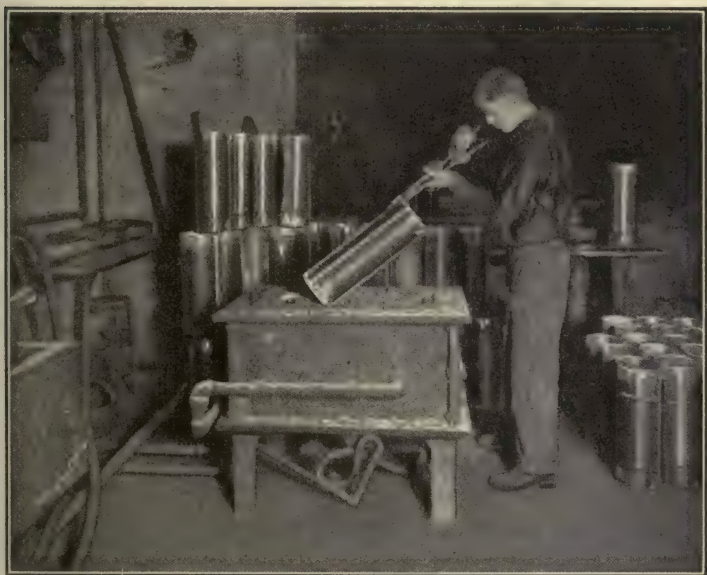

FIG. 63. — Tinning fire extinguishers.
**Tin.** — Tin is a silvery white metal. It is seldom found free, and then only in small quantities. The ore from which it is extracted is found in England, Australia, and India. Tin is soft and malleable and can be beaten into thin sheets. These tin sheets are called tin foil, and are used as a covering for chocolate and other foods, and as a lining for candy, soap, and cigar boxes. The so-called tin pan of the kitchen is not a real tin pan; if it were, it would be too soft for use. It is an iron pan that has been dipped into melted tin, and has acquired a tin coating (Fig. 63). The bright, shiny, clean appearance